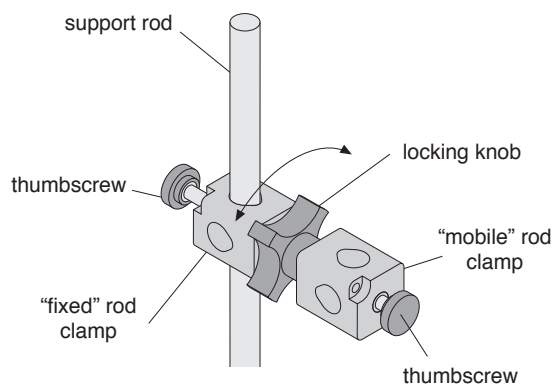

Figure 2: Adjustable Angle Rod Clamp Adjustment
- ② Secure the rod clamp in place with the thumbscrew.
- ③ Loosen the locking knob and rotate the “mobile” rod clamp into the desired position. See Figure 2.
- ④ Tighten the locking knob against the mobile rod clamp until secure.
- ⑤ Place additional rod or equipment in the mobile rod clamp and secure with the thumbscrew.